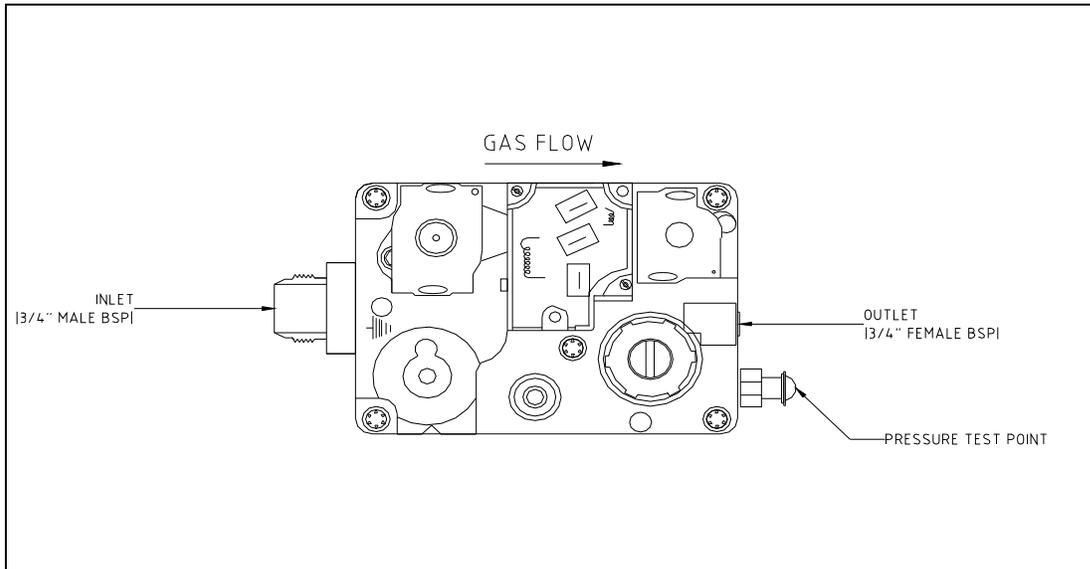

Figure 4: Gas valve connections (Note: the valve used may differ slightly from that shown)
1. Check the burner pressure setting. The pressure test point is as shown in Figure 4 and is a 3/8" gland type fitting. The correct pressure for Natural Gas is 0.87 kPa. The correct pressure for LPG is 2.7 kPa.